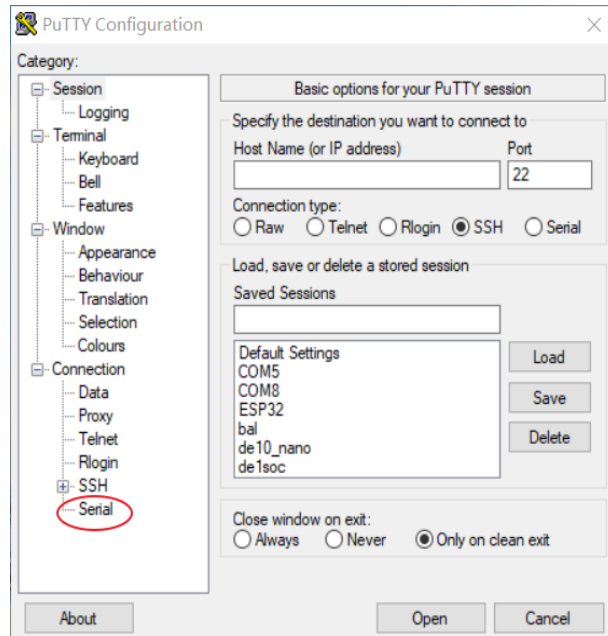

Figure 5-11 Click serial
- Open the putty software, type in the parameter as shown in **Figure 5-11**, and click **Open** button to open the terminal. (Here is a link for you to download the putty terminal <http://the.earth.li/~sgtatham/putty/latest/x86/putty.exe>)